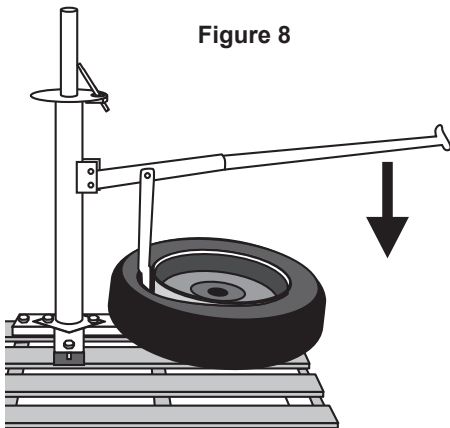

Figure 8
8. Set Bead Breaker Shoe against the edge of tire rim and push down on Bead Breaker Handle, removing bead from rim. See Figure 8, below.